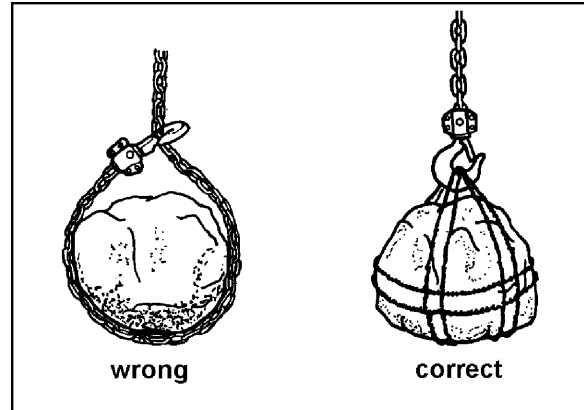

Figure 7
- When lifting loads, hook the load with slings. Do not use the lever hoist chain as a sling (Figure 7).